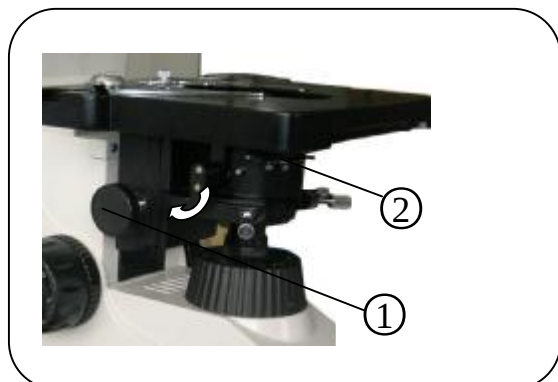

Fig. 14.
7. Adjusting condenser position & aperture diaphragm (Fig. 14.)